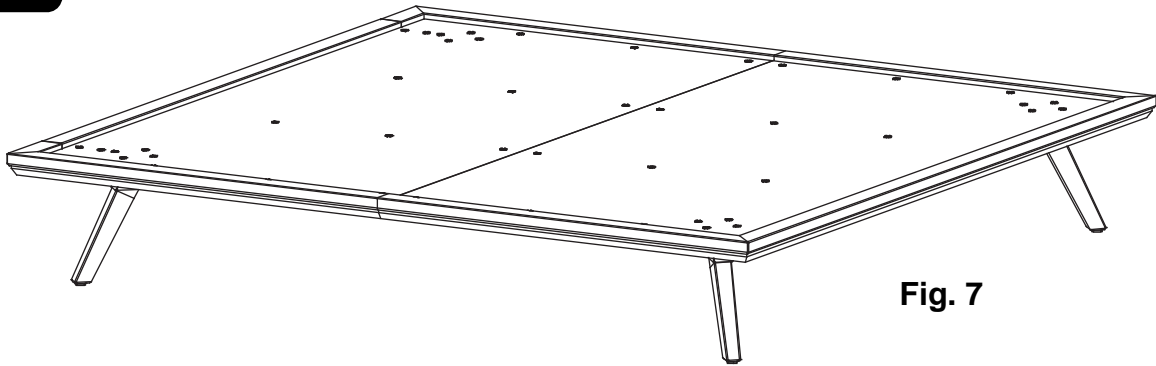

Fig. 7
7.  **CAUTION NEEDED:** Flip the Platform Assembly over onto the feet. Use extreme care not to bump into light fixtures, ceiling fans, walls, ceiling, or other objects in the room. Protect the corners of the Platform. Do not apply force to the Foot Assemblies (Q). Carefully slide the Platform carton out from beneath the Platform Assembly and recycle or discard. See Figure 7.